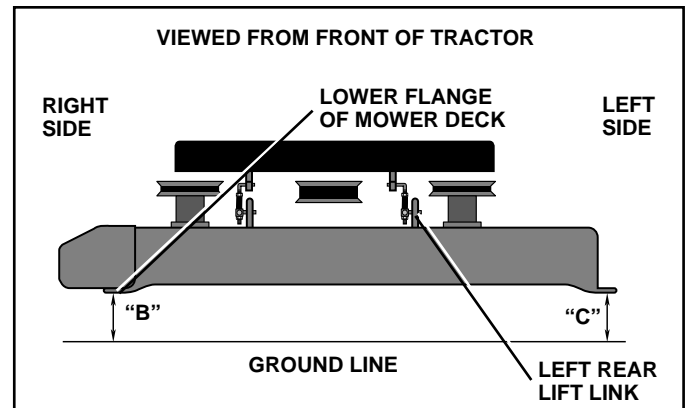

FIG. 21
- Place attachment height adjustment knob in position "3" (See Fig. 21).
### SIDE-TO-SIDE ADJUSTMENT (See Figs. 21 and 22)